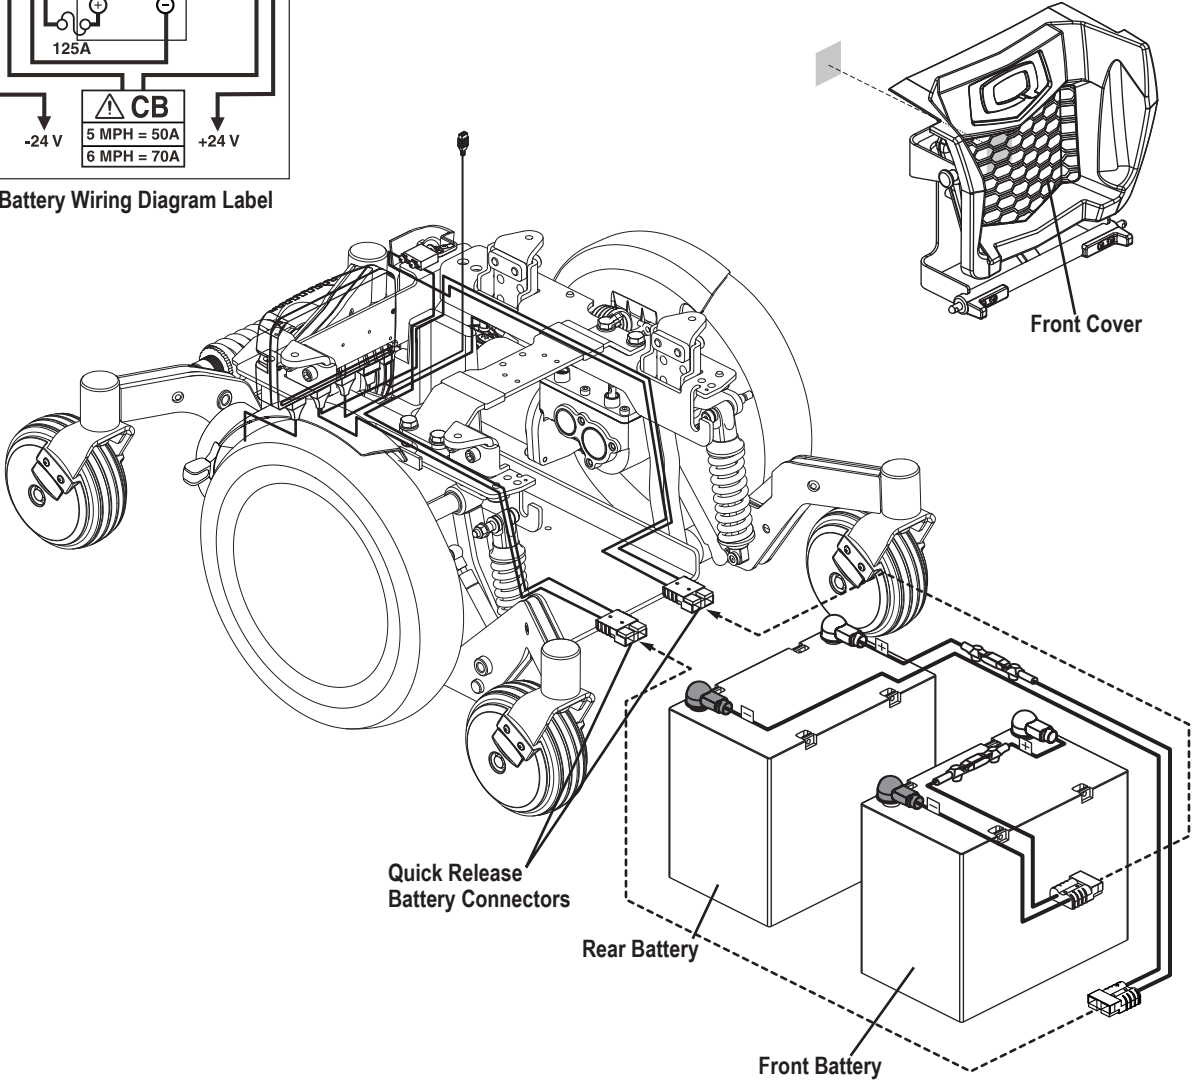

Figure 15. Battery Installation
4. Remove the detent pin from the top of the actuator. If there is any difficulty in reaching the pin from under the seat, the seat pan may be removed. Remove six (6) Phillips flat head screws to remove the seat pan.
6. Remove the front cover by squeezing the release handles (see figure 15) and lifting the front cover up and away from the power base.
13. Connect the battery harness to the new front battery according to the battery wiring diagram. See figure 15.
14. Connect the battery harness to the new rear battery according to the battery wiring diagram. See figure 15.